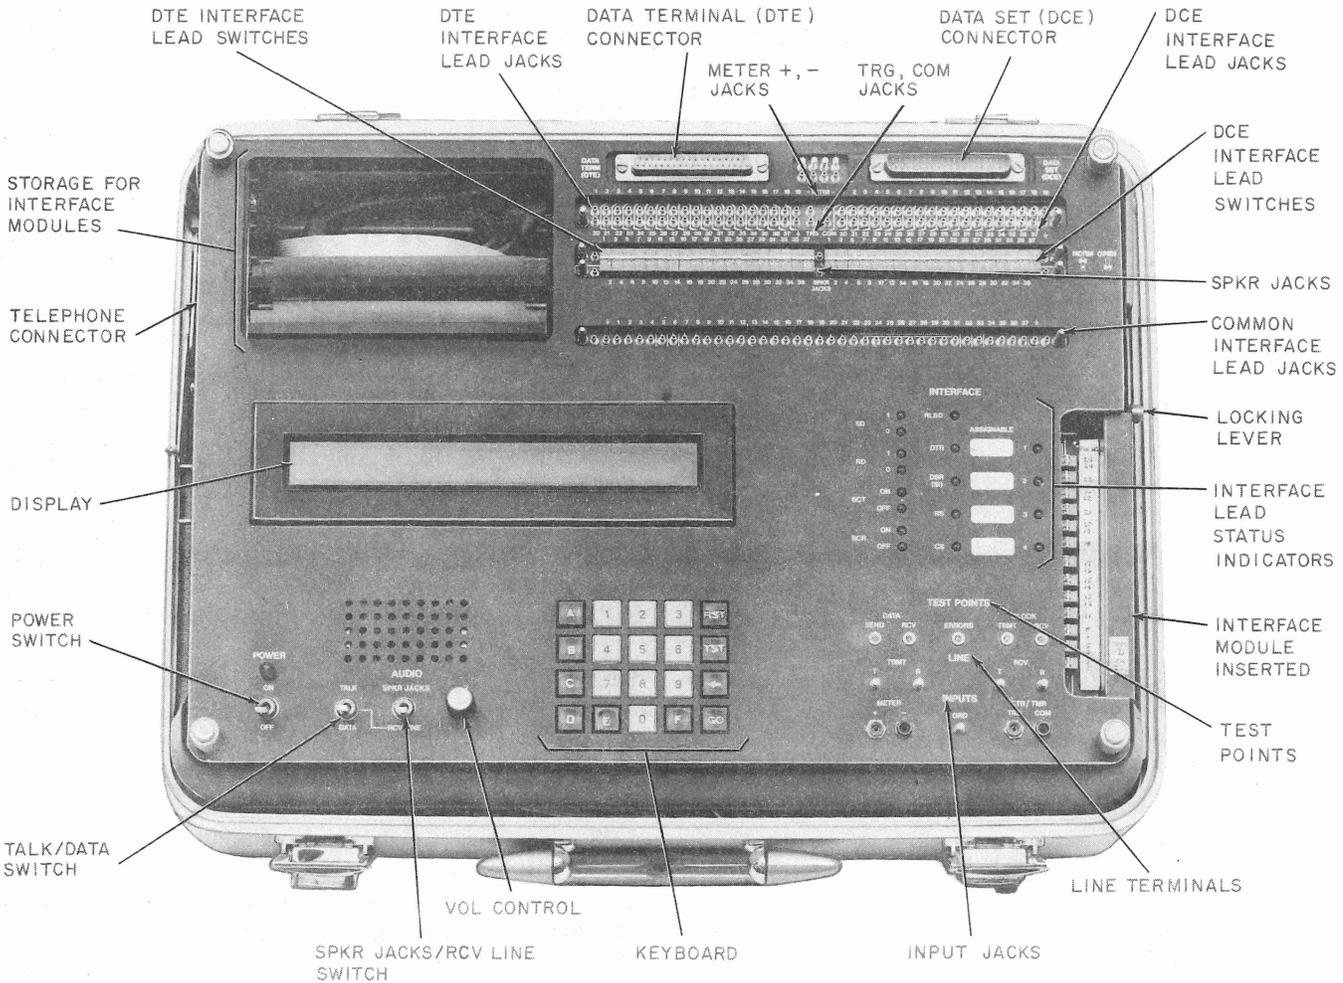

Fig. 1—921A Data Test Set—Front Panel
**1.04** The 921A DTS (Fig. 1) is a portable, general purpose data test set that provides the serial testing capabilities of the 914C DTS and is compatible with the 914C DTS for the testing of serial data sets. The 921A DTS also provides additional testing capabilities that are described in Section 107-402-100. Input to the 921A DTS is made through a 20-button keyboard. A 32-character display provides operator prompting and test results.